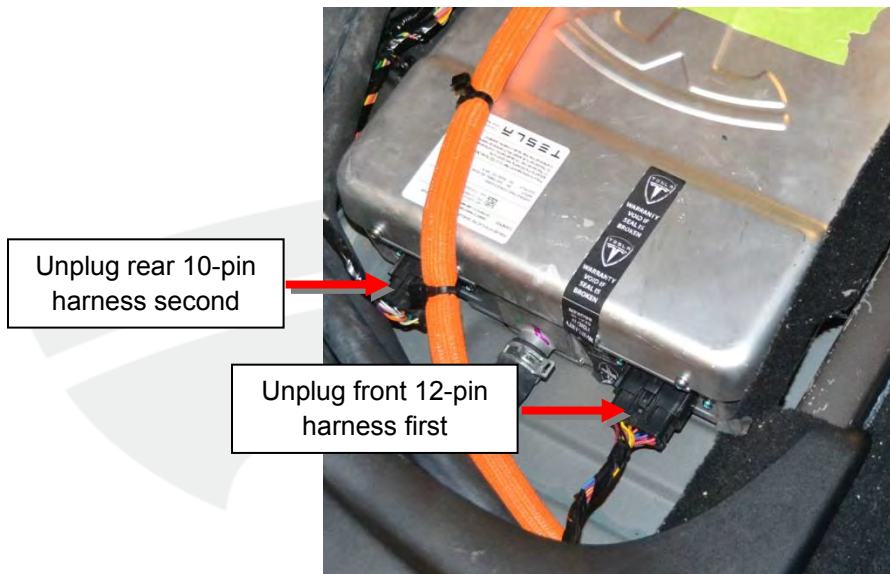

Figure 1
4. **North American vehicles only:** Confirm that the vehicle has a 2nd generation charger (Figure 1). If the vehicle has a 1st generation charger, do not perform this procedure; refer to SB-12-44-005 instead.
5. Disconnect the front 12-pin harness from the master charger, then disconnect the rear 10-pin harness from the master charger (Figure 1).